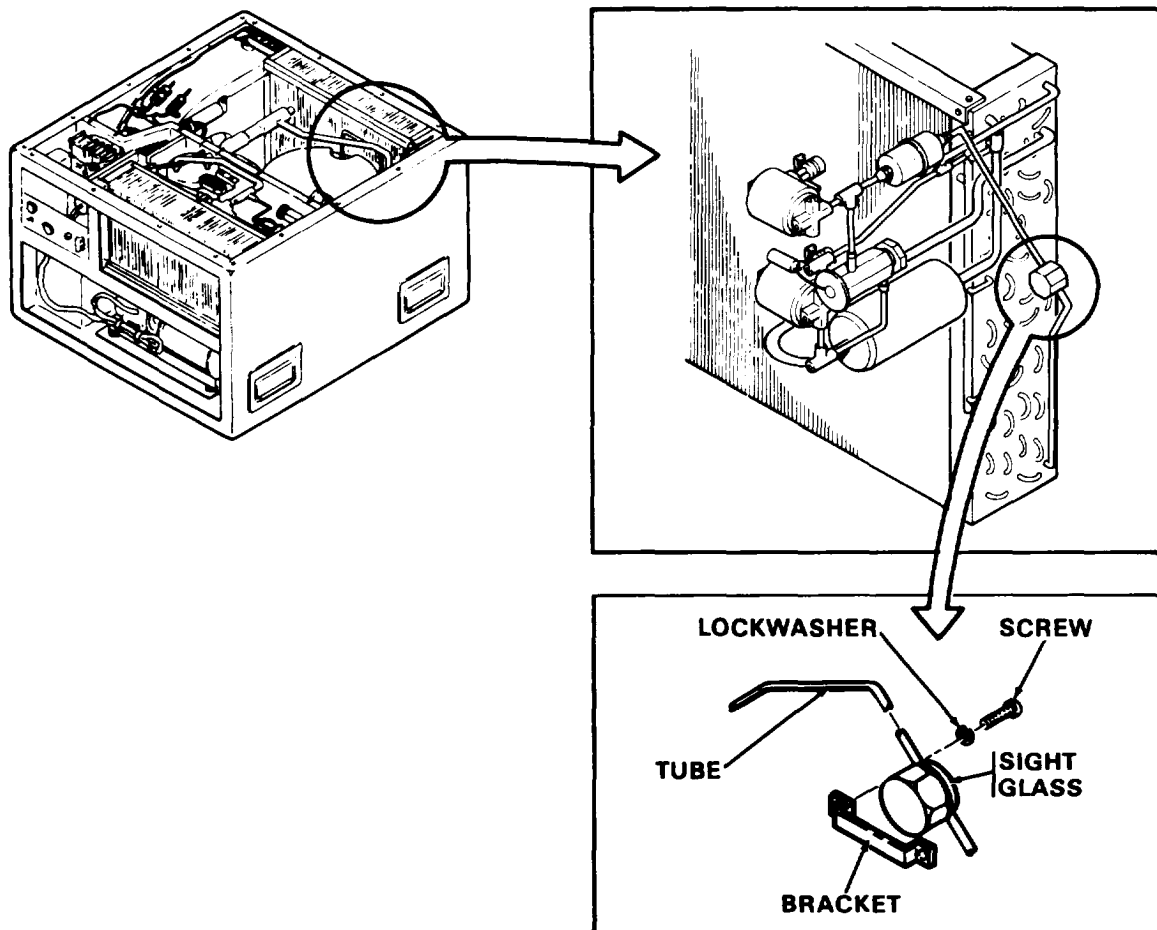

Figure 5-8. Liquid Sight Indicator
a. General. The liquid sight indicator provides a heavy glass porthole to give visible indication of refrigerant flow. Figure 1-2 shows the location and figure 5-8 is a closeup view.
- (3) Refer to figure 5-8 and remove the liquid sight indicator mounting plate.
- (4) Unsolder the liquid sight indicator from the refrigerant system tubing.
- (1) Refer to figure 5-8 and install the liquid sight indicator and its mounting bracket.